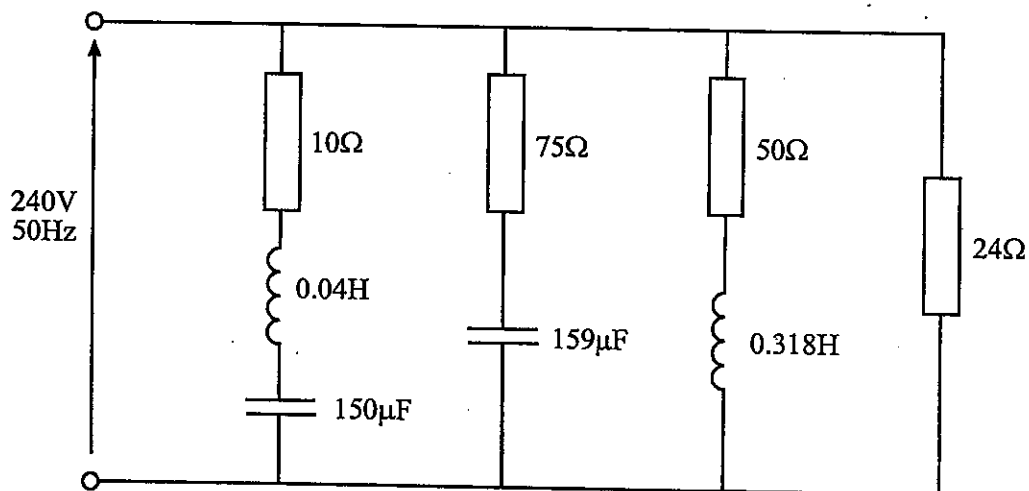

Fig Q4
- (i) the new values of p.d. across each lamp; (6)
- (ii) the current passing through the man's body to earth. (2)
- (a) Sketch a circuit diagram of the arrangement. (2)
- (i) the load voltage when the load current is zero and the supply p.d. is 15V; (4)
- (ii) the load voltage when the load current is 30mA and the supply p.d. is 40V; (3)
- (iii) the minimum value of the supply p.d. to give a stabilised load voltage for a load current of 30mA; (3)
- (iv) the power dissipated in the Zener diode when the supply p.d. is 50V and the load current is 20mA. (4)
4. For the circuit shown in Fig Q4, determine EACH of the following:
- (a) the supply current; (12)
- (b) the supply kW; (2)
- (c) the supply kVAR. (2)